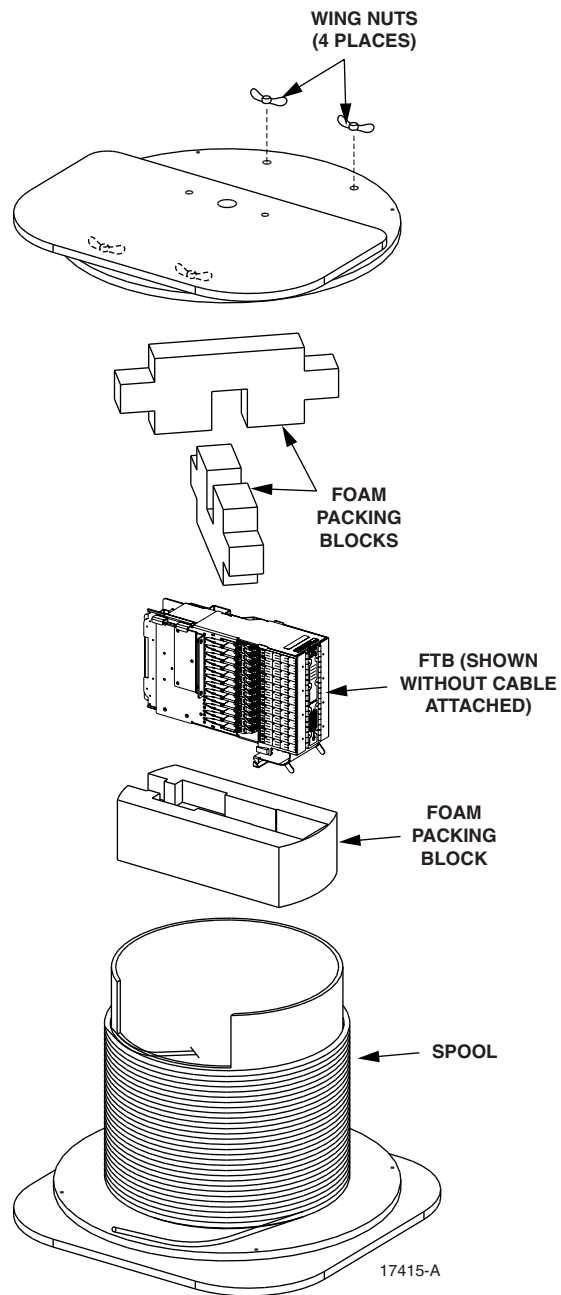

Figure 21. Pre-Terminated FTB Spool Assembly
4. When all of the cable is unwound from the spool, place the cable spool on its side with the smaller of the two plywood side supports facing up, as shown in Figure 21.